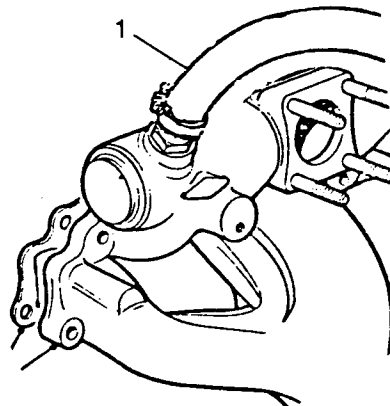
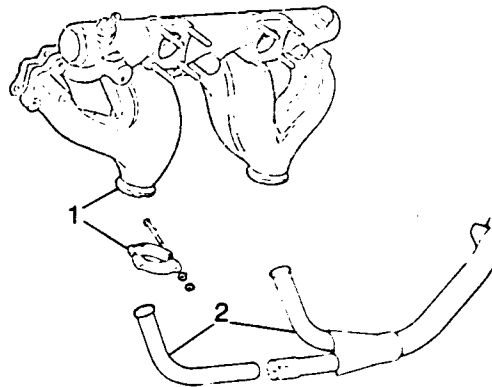

Fig F3.3
Fig F3.4
(9) Refer to Fig F3.3. Disconnect the brake servo hose (1) from the adapter on the inlet manifold.
(10) Remove the two set bolts to release the heat shield from the exhaust manifold.
(11) Refer to Fig F3.4. Remove the two clamps (1) to release the exhaust downpipes (2) from the exhaust manifold.
(2) Replace the exhaust downpipes and secure with the two clamps (Fig F3.4).
(3) Replace the heat shield and the two set bolts.
(4) Replace the brake servo hose onto the adaptor on the inlet manifold (Fig F3.3).